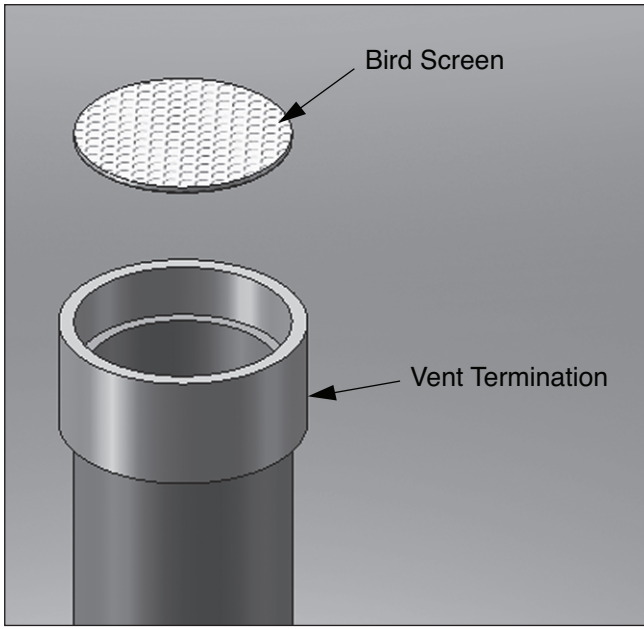
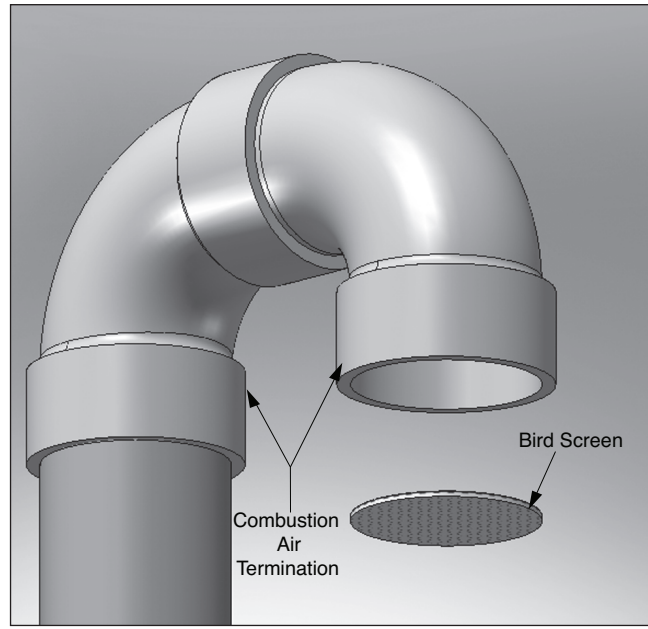
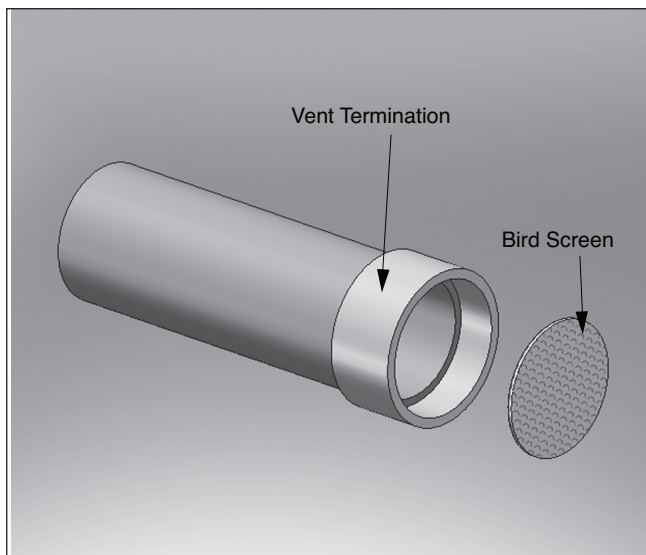
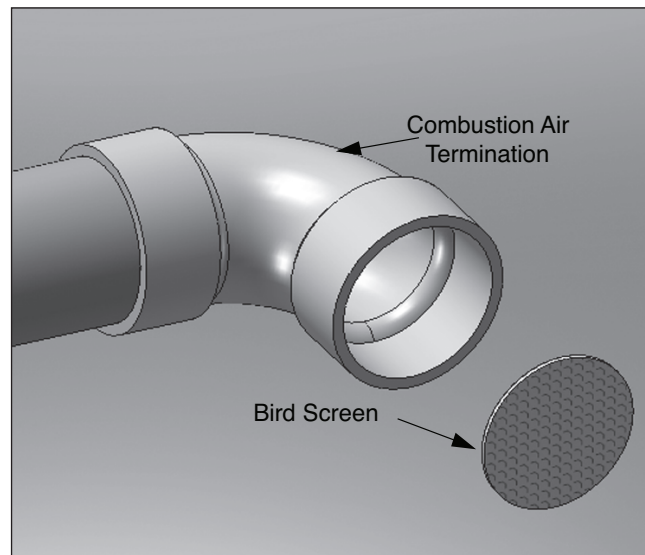

Fig. 3 - Vertical Vent Bird Screen Installation
Fig. 4 - Vertical Combustion Air Bird Screen Installation
Fig. 9 - Sidewall Vent Bird Screen Installation
Fig. 10 - Sidewall Combustion Air Bird Screen Installation
1. The vent and combustion air terminations must include a factory supplied "bird screen" installed as shown in *Fig. 3* and *Fig. 4 on page 14*
1. The vent and combustion air terminations must include a factory supplied "bird screen" installed as shown in *Fig. 9* and *Fig. 10 on page 18*.
1. The vent and combustion air terminations must include a factory supplied "bird screen" installed as shown in *Fig. 3 on page 14* & *Fig. 10 on page 18*.